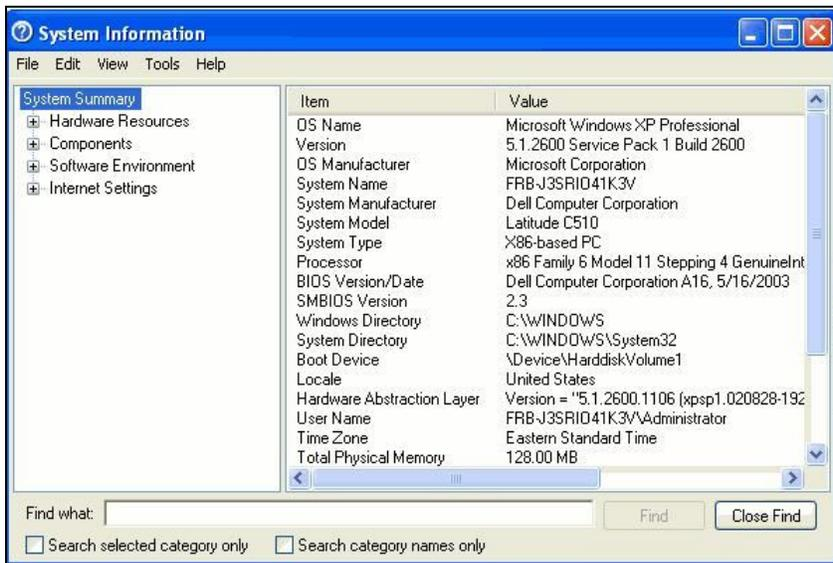

Figure 2.31
3. The Help window can also be used to obtain information pertaining to your computer. Click on the **'System Info'** button at the bottom of the window to display information regarding your computer. (Figure 2.31)